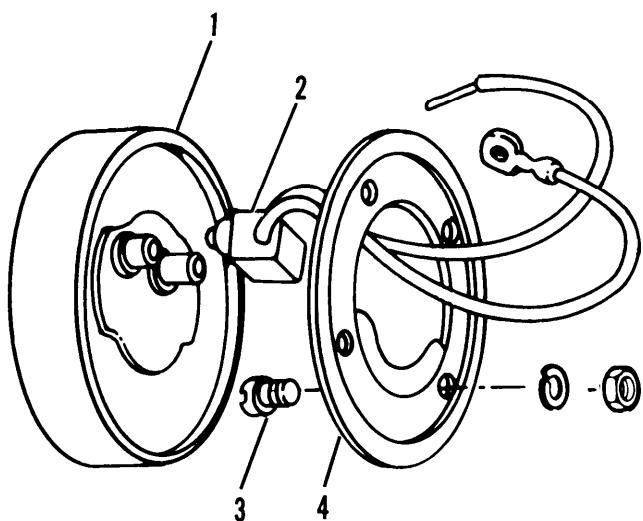

Figure 4-12. Clearance Light (M871)
- (1) Rotate light (1, fig. 4-12) one-quarter turn counterclockwise and pull light (1) straight out.
- (2) Remove connector (2) from rear of light (1).
(3) Remove two screws (3) and mounting disk (4).
(4) Tag and disconnect wiring from semitrailer wiring and remove connector (2).
(1) Connect connector wiring (2, fig. 4-12) to semitrailer wiring.
(2) Install mounting disk (4) and two screws (3).
(3) Install connector (2) to rear of light (1).
(4) Rotate light (1) one-quarter turn clockwise.
(5) Connect electrical power and test for proper operation.